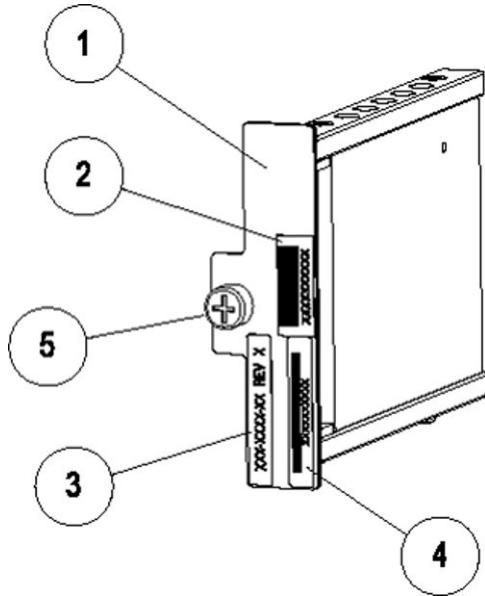

Figure 2: Drive Module Label Locations
- Serial Number Label (1)
- CLEI Label (2)
- Part Number Label (3)
- Revision Label (4)
2. Find the part number information on the drive module. See Figure 2: Drive Module Label Locations for illustration.